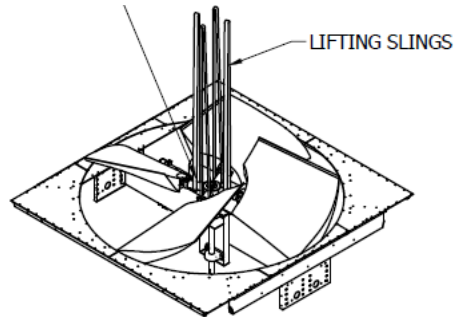

Figure 42: Positioning over fan shaft
4. Position the fan over the keyed fan shaft per **Figure 42**.